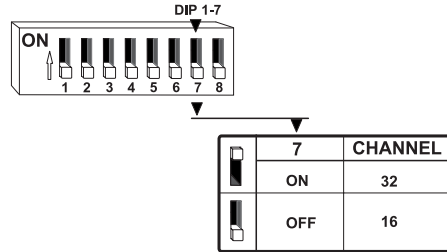

Figure 10. Channel or Address Select
- The BNCs are numbered and addressed, left to right, 1-16. The BNCs on a cascaded translator (the second unit) are addressed and numbered, left to right, 17-32. The address response for each controller is set via DIP 1-7 (see Figure 10).